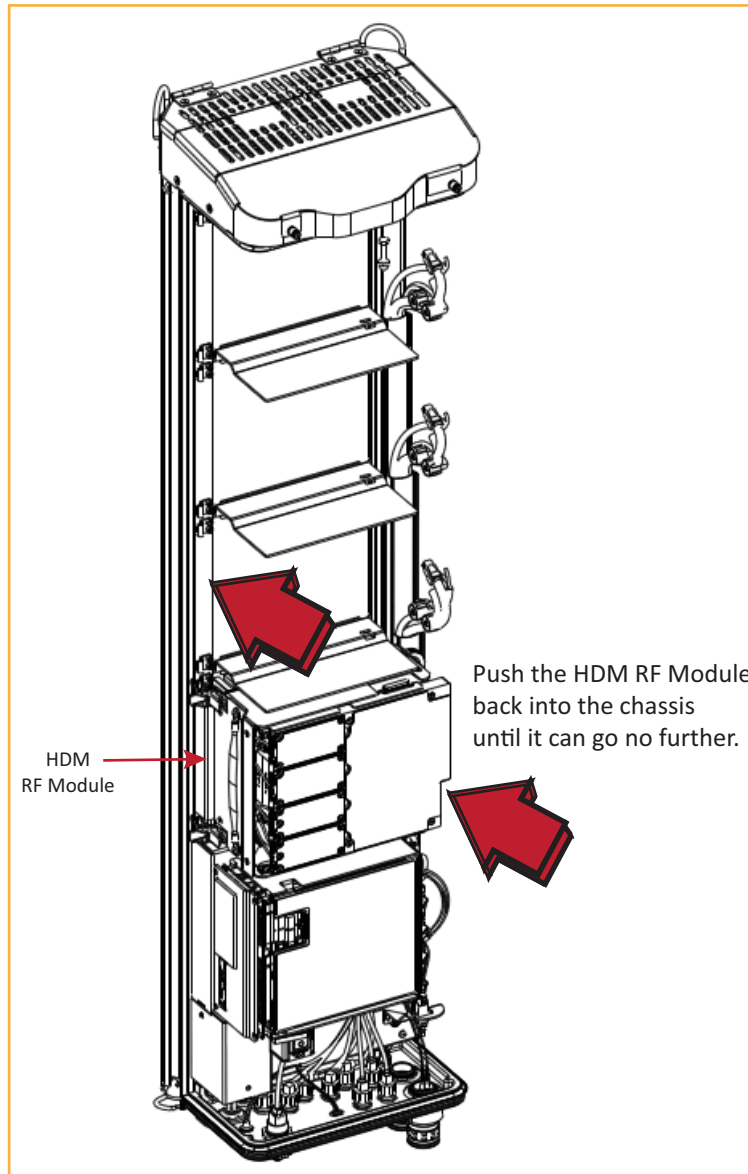

Figure 16. Seating an HDM RF Module
- For HDM RF Modules, see Figure 16 on page 32.